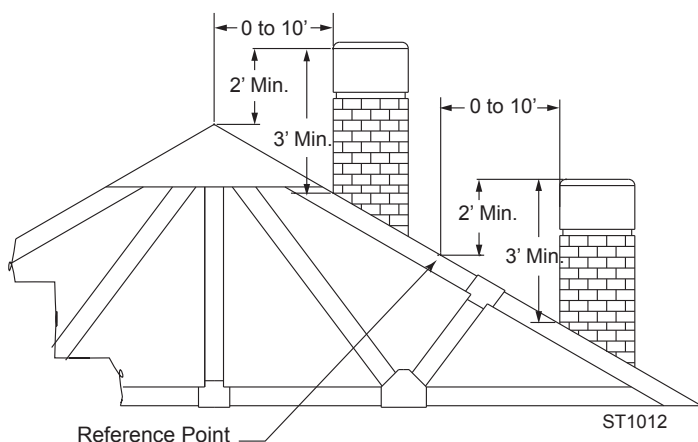

**Figure 2 -
3. The chimney should extend at least 3' (914 mm) above the highest point where it passes through the roof, and at least 2' (610 mm) higher than any portion of a building within 10' (3 m). *Figure 2*